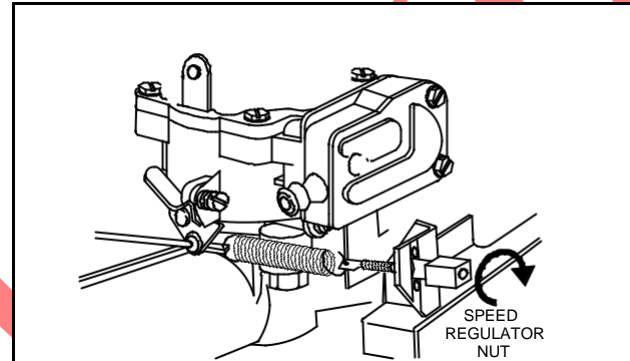

Fig. 42 – Adjust Low Speed
2. Disconnect governed idle spring and main governor spring. With machine set in low speed position, start engine and adjust speed regulator nut to obtain 1850 RPM, No-Load, Fig. 42.